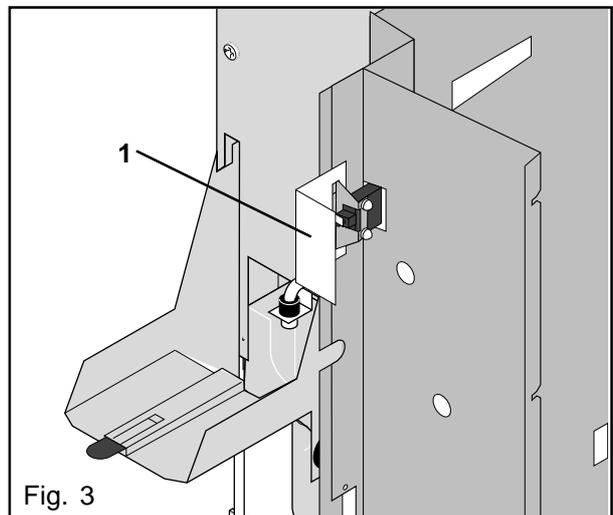

Fig. 3
CAUTION: When the door is opened, the service switch plate (1) can serve for keeping the safety switch pressed. (Fig. 3)